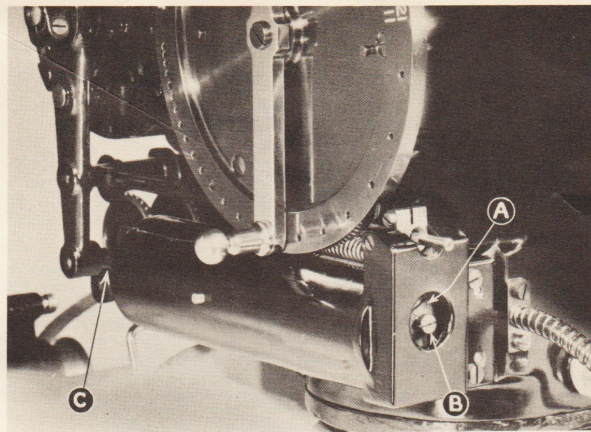

FIGURE 12 - ADJUSTMENT OF CLUTCH MAGNET.
E. REPLACEMENT AND ADJUSTMENT OF CLUTCH MAGNET (figure 12.)